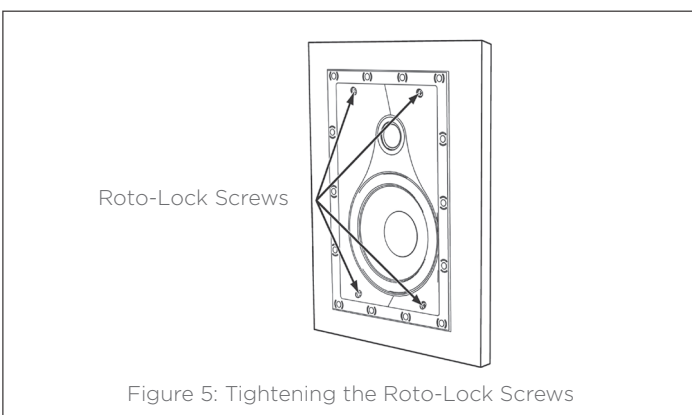

Figure 5: Tightening the Roto-Lock Screws
5. Tighten the screws on the front of the speaker baffle. The Roto-Lock toggle feet will automatically rotate into position and begin clamping the speaker (see Figure 5).